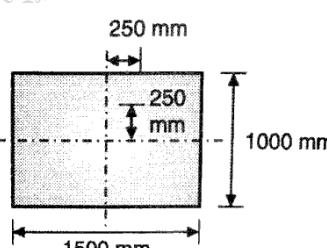

Figure 02
- B)** A rectangular pier is subjected to a compressive load of 450 kN as shown in figure 02. Find stress intensities on all the four corners of the pier.